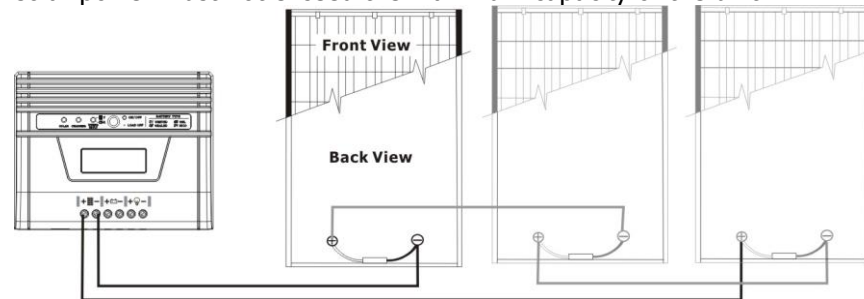

Fig. 8
2) Multiple solar modules in series connection (Refer to Fig. 8): All modules must be equal in amperage output. The sum of their voltages must not exceed the maximum solar module open circuit voltage. The sum of their solar power must not exceed the maximum capacity of the unit.